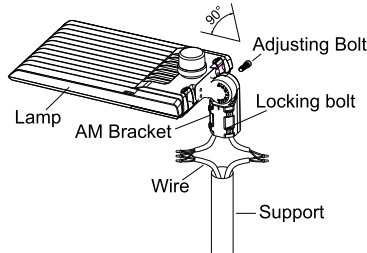

Figure 11
1. ADJUSTABLE FITTER MOUNTING (AM)
Step 1: Loosen the four bolts on AM bracket, connect the wires correctly, and pull the wires into the poles.(Figure 11)
Notice: Adjustable angle is 0-90°(Figure 11)